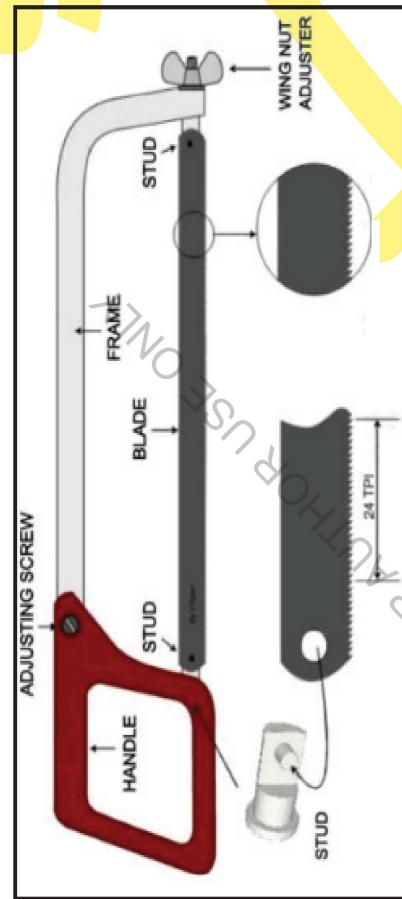

Figure 2.21 Hack Saw
2.2.4.3 Hacksaw: It is a hand operated metal cutting tool used for small jobs in workshop. The cutting action of hacksaw is termed as sawing operation. It consists of a "U" shaped steel frame and a saw blade as shown in figure 2.21. The frame may be adjustable to take different blade lengths. It has a wing nut to adjust the tension of the blade.